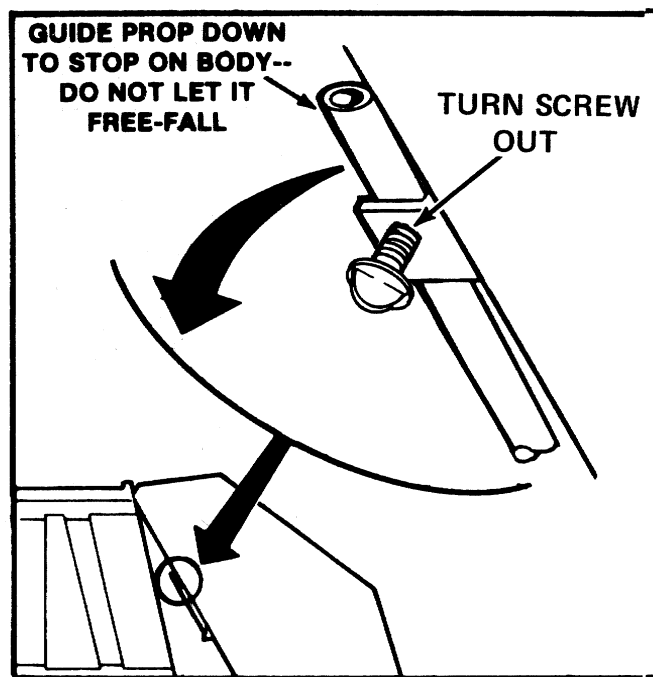

Figure 13.
3. Turn out on screw to allow props to rotate down to support position, see Figures 13 and 14.